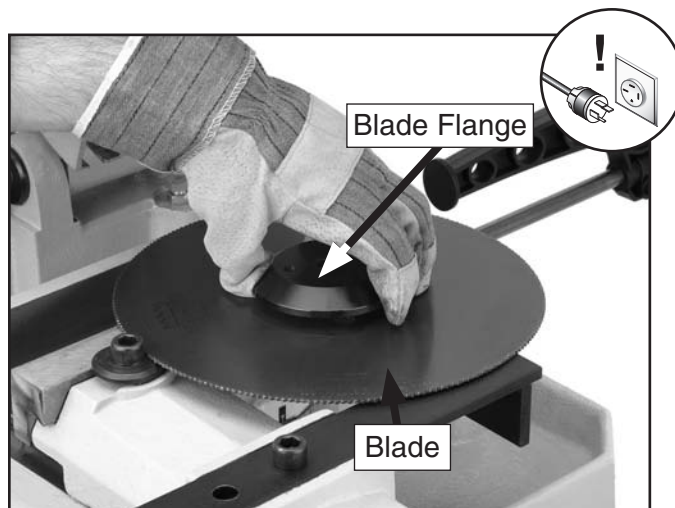

Figure 45. Installing new blade.
6. Place the blade flange on the new blade, as shown in **Figure 45**.